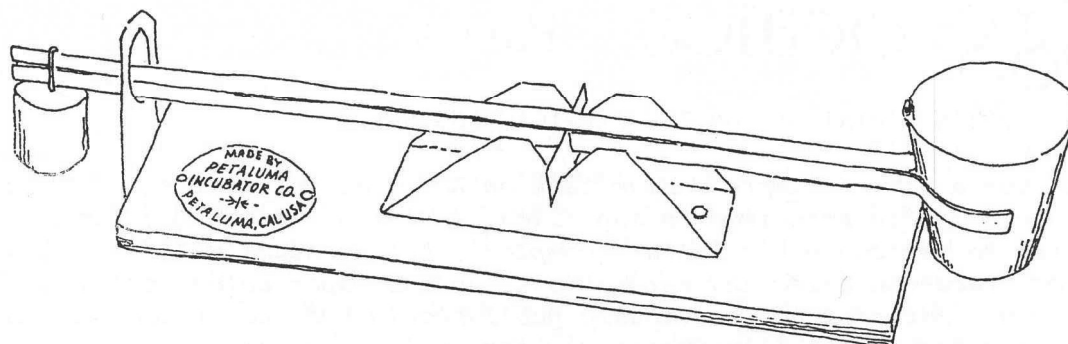

Fig. 1. Petaluma Incubator Co.
A...Petaluma Incubator Co. Long beam with conical cup. (Fig. 1.)
These three varieties were to find eggs of only one weight. The crimped cup version (MAC 34) and the long beam (Fig.1) counterbalanced a $1 \frac{5}{16}$ oz. egg, a dozen of which weighed 22 oz. Other manufacturers/suppliers produced scales that would select one grade only;-